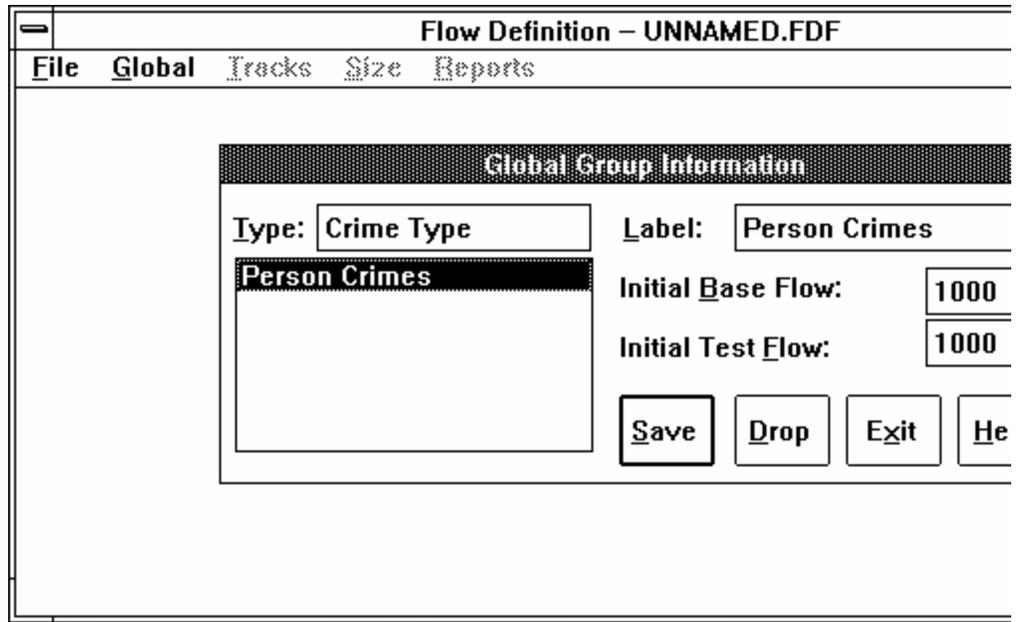

Figure 5-2. The first crime type defined.
7. Click the Save button to save the entry. The screen will look like Figure 5-2.